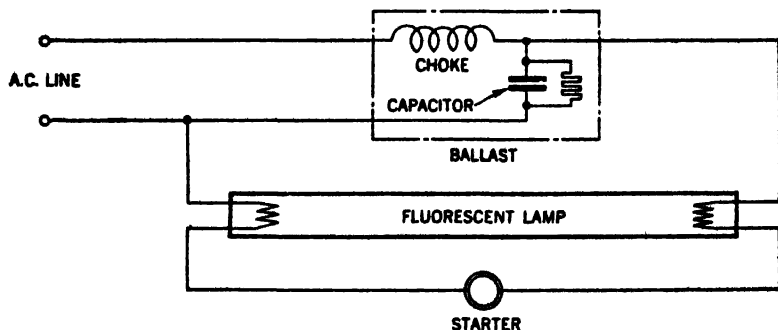

FIG. 5,225-22.—Wiring diagram of single fluorescent lamp with power factor corrected ballast.
**Single-Lamp Ballasts.**—The circuit for the single lamp ballasts is shown in fig. 5,225-21, whereas a power factor corrected ballast is shown in fig. 5,225-22. For operating the 13, 30, 40 and 100 watt lamps on 110-125 volt circuits, the ballast must include a transformer for stepping up the voltage. In single lamp power factor corrected ballasts of this type, a condenser as shown by the dotted lines, fig. 5,225-23, must be included.